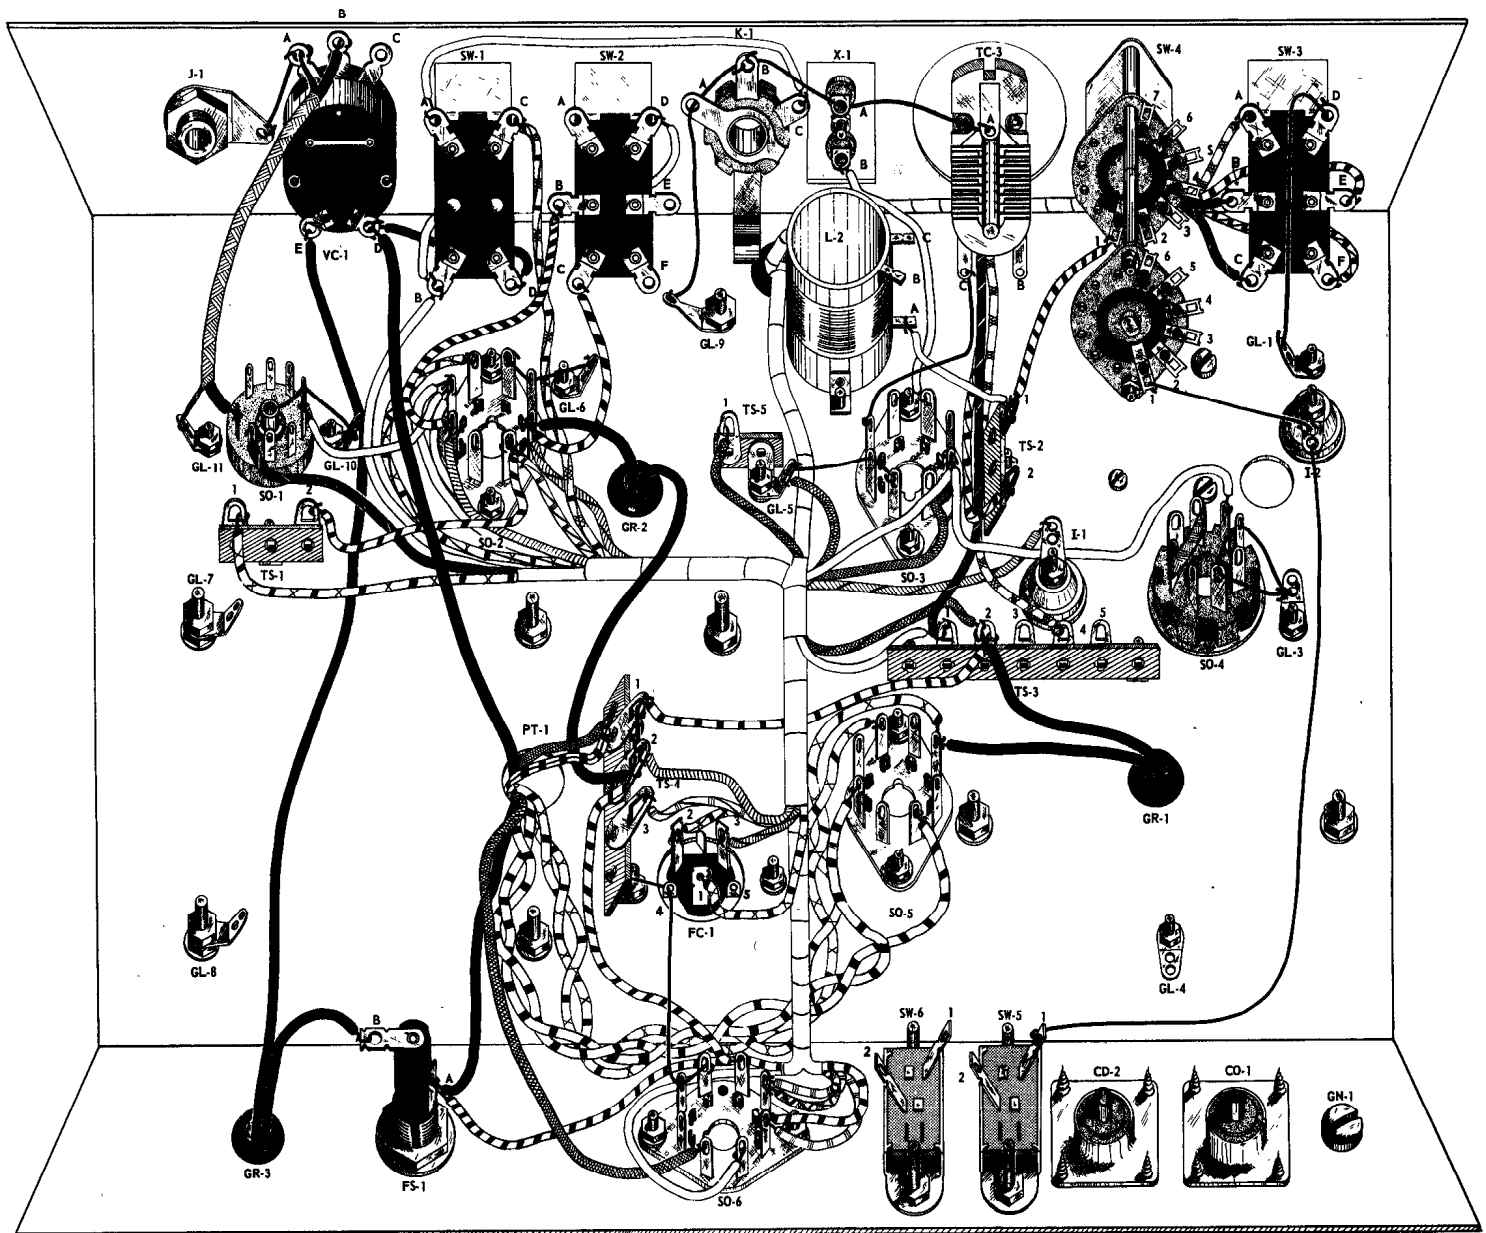

Figure 17. Wiring, Steps 1 through 103.
- ☐ 1. Place the chassis on a table, bottom side up with the rear apron of the chassis towards you as per Fig. 17.
- ☐ 3. Select one of the two BLACK leads. Route it back towards the fuse holder FS-1. Trim this lead to length and remove $\frac{1}{4}$ " of insulation from the end. Connect the trimmed end of the lead to lug A of fuse holder FS-1. Fasten securely. (NS).
- ☐ 4. Route the other BLACK lead of transformer PT-1 toward the front of the chassis to lug D of the switch cover on VC-1. Trim this lead to length and remove $\frac{1}{4}$ " of insulation from the end. Connect the trimmed end of the lead to lug D of VC-1. Fasten securely. (NS).
- ☐ 6. Connect one of the RED wires to pin 4 of socket SO-5. (S).
- ☐ 7. Connect the other RED lead to pin 6 of socket SO-5. (S).
- ☐ 20. Install the large harness assembly in the chassis as shown in Fig. 17. Route branch G through grommet hole GR-4 over to pilot lamp assemblies PL-1 and PL-2.
- ☐ 21. Route the heavy white lead in branch C around accessory socket SO-6 to pin 6 of this same socket. Trim the lead to length. Remove $\frac{1}{4}$ " of insulation from the end and connect to pin 6 of socket SO-6. (S).
- ☐ 22. Select the red lead of branch C. Route this lead to lug A of the fuse holder FS-1. Trim to length and remove $\frac{1}{4}$ " of insulation from the end. Connect to lug A of the fuse holder FS-1. (S).
- ☐ 23. Route a red lead and a blue lead of branch D to pin 5 of SO-6. Trim to length and remove $\frac{1}{4}$ " insulation from the end of each lead. Connect both leads to pin 5 of SO-6. (S).
- ☐ 24. Route the two remaining leads of branch D to pin 4 of SO-6. These are the blue lead and the white lead with violet tracer. Trim the leads to length and remove $\frac{1}{4}$ " insulation from the end of each lead. Connect both leads to pin 4 of SO-6. (S).
- ☐ 25. Route the yellow lead of branch B to lug 1 of filter condenser FC-1. Trim the lead to length and remove $\frac{1}{4}$ " insulation from the end. Connect the lead to lug 1 of FC-1. (S).
- ☐ 26. Select the white lead with yellow tracer from branch B. Route to lug 2 of filter condenser FC-1. Trim to length and remove $\frac{1}{4}$ " insulation from the end. Connect to lug 2 of FC-1. (S).
- ☐ 27. Select the white lead with black tracer from branch B. Route to lug 3 of filter condenser FC-1. Trim to length and remove $\frac{1}{4}$ " insulation from the end. Connect to lug 3 of FC-1. (S).
- ☐ 49. Turn the chassis upside-down again. Refer to Fig. 17.
- ☐ 68. Turn the chassis over so it appears as in Fig. 17.
- ☐ 75. Thread a length of #20 bus wire through pin 3 of socket SO-3. Route this lead up toward coil L-2, make a right angle bend and connect to lug C of tuning condenser TC-3. Wrap securely at both points. (S). Make certain this lead clears coil L-2.
- ☐ 76. Connect a length of #20 bus wire from grounding lug GL-1 to lug D of switch SW-3. (S).